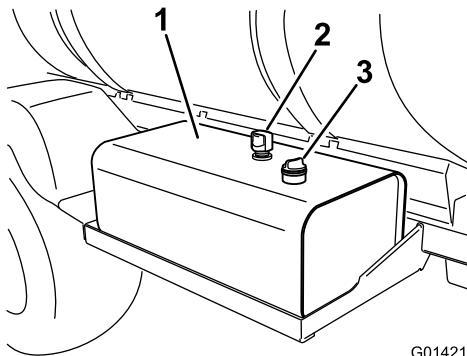

Figure 107
2. Clean the area around the hydraulic-fluid-tank dipstick cap and remove it (Figure 107).